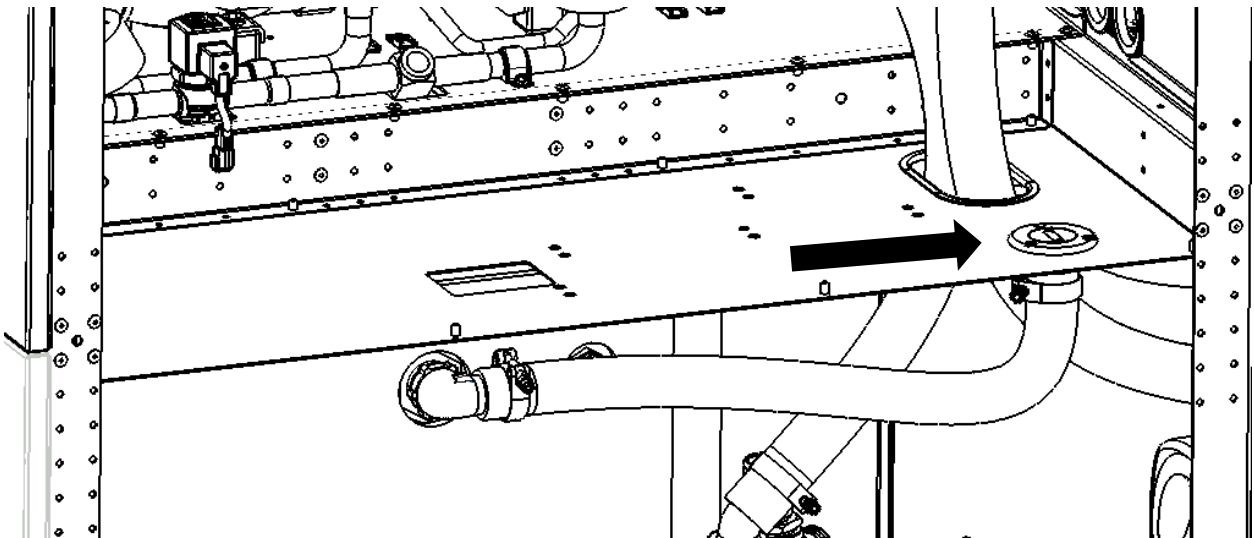
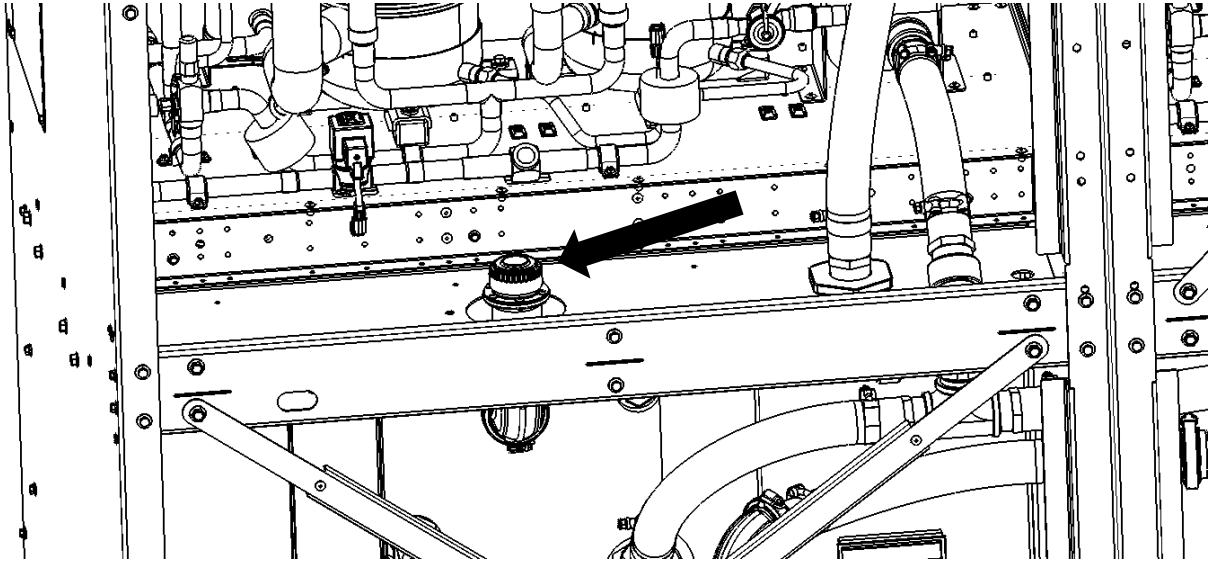

Figure 11 Fill Port Non-Seismic
Figure 12 Fill Port Seismic
1. Remove the tank fill port cap. Located in the top cabinet of the rear of the chiller. That is the farthest away from the electrical enclosure. See Figure 11 and Figure 11 Fill Port Non-Seismic Figure 12.